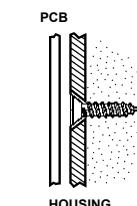

Figure 1: Mounting Screw Position
- Mount the back cover of the transmitter to the wall using two screws. Use ISO 7050 (ST3.5 x 22) or similar countersunk screws so that the screw head will not touch the PCB – see Figure 1.